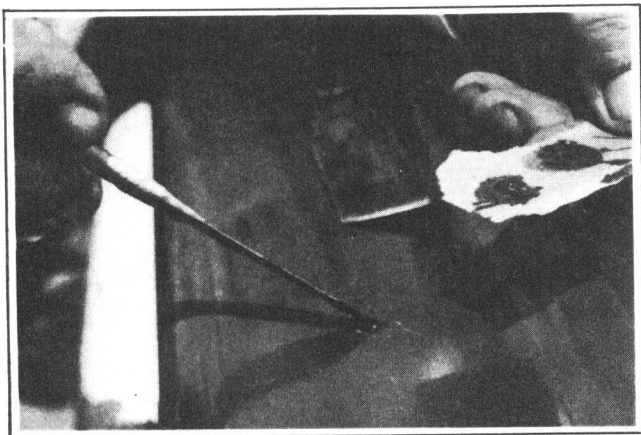

Figure 4-3. Filling Hole or Scratch
4. Fill the scratch or hole above the surrounding undamaged area about 1/16", working the material into the damaged area with the sharp point of a knife. Be careful to puncture and eliminate any air bubbles which may occur. See Figure 4-3.